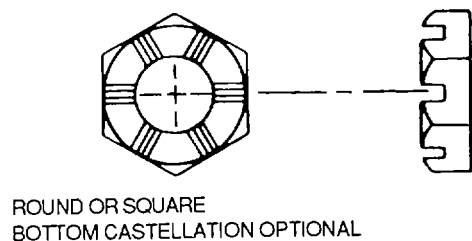
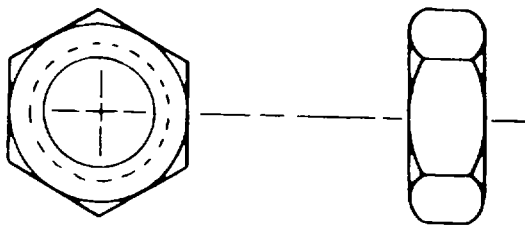

Figure 2-23. Shear Castle Nut
Figure 2-24. Plain Checknut
(2) Shear Use AN320 airframe castellated shear nuts, as shown in figure 2-23, for those devices, such as drilled clevis bolts and threaded taper pins, that are subjected to shear loads only.
(3) Engine. Engine castle nuts, AN121551 through AN121575, are identified by E11 stamped into the metal Do not substitute any other type nut.
c. Checknuts. Use AN316 aircraft plain check-nuts, as shown in figure 2-24, as a locking device for plain nuts, setscrews, threaded rod ends, and other similar Items